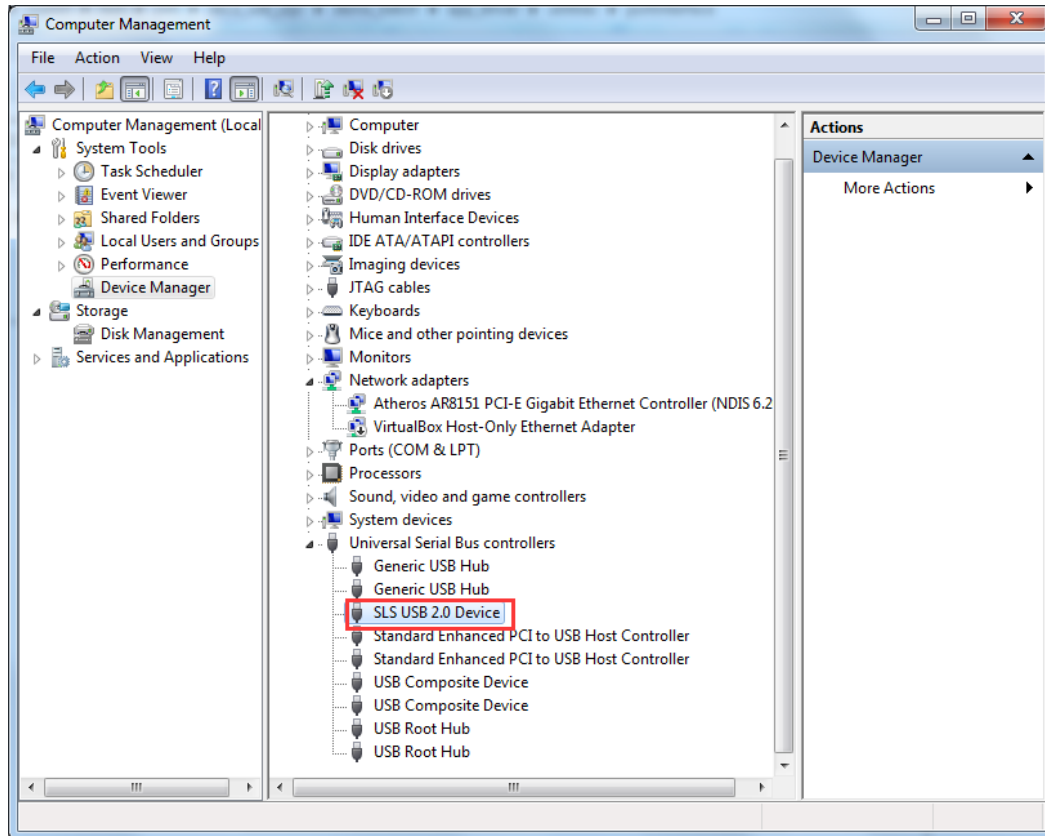

Figure 7-28 SLS USB 2.0 Device
- After successfully installed the driver file, the USB2.0 device will be show as **Figure 7-28**.